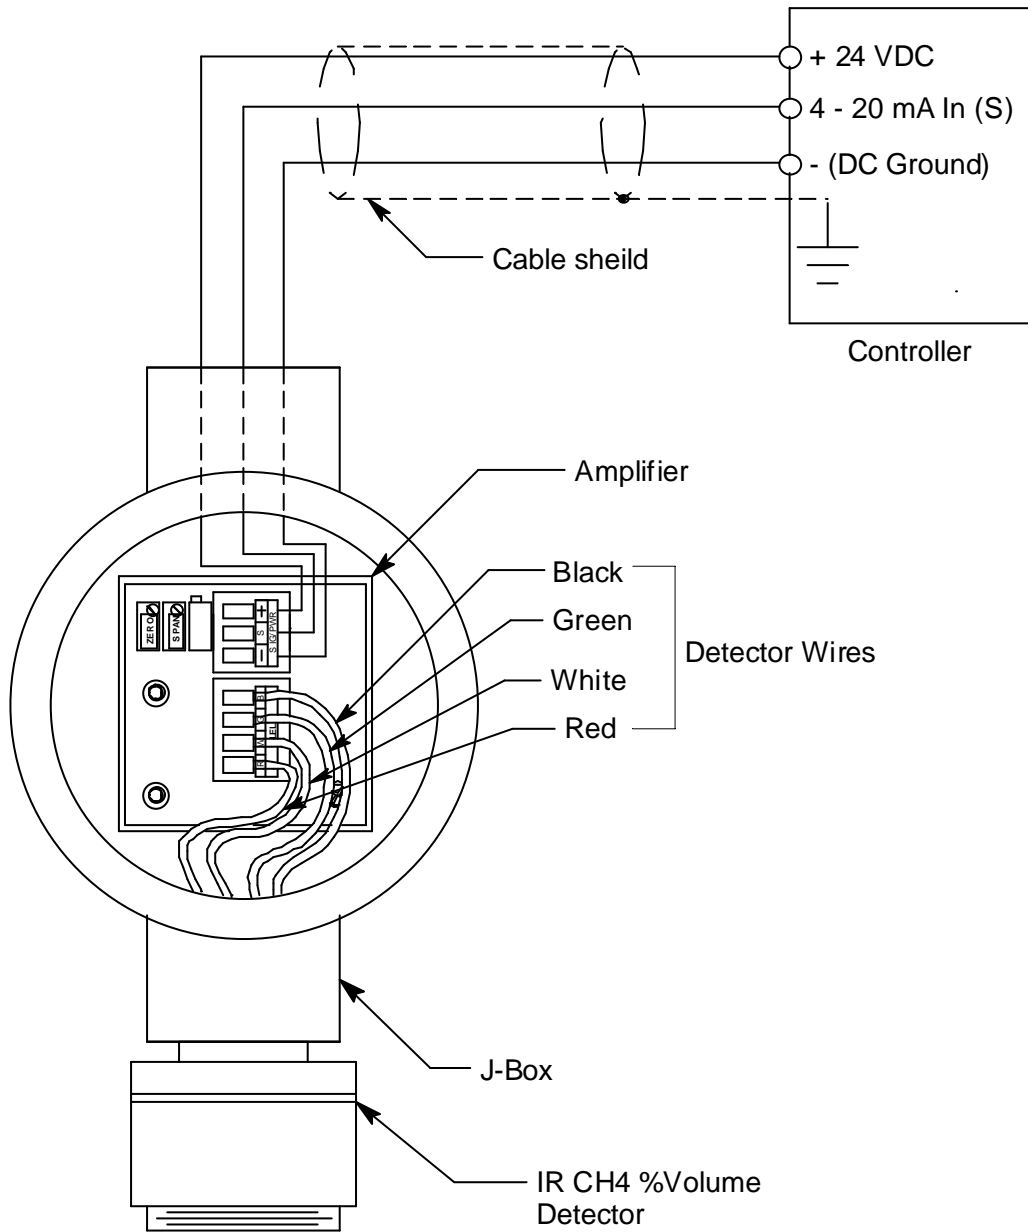

Figure 4: Wiring the Methane Transmitter to a Controller
4. The detector leads are factory wired. Verify that the detector leads are wired to the amplifier's detector terminal strip as shown in Figure 4.
7. Pull out the controller terminal strip, and connect the three wires to the terminal strip as follows (see Figure 4).
11. Connect the wires to the applicable detector/transmitter terminal strip at the controller as shown in Figure 4.